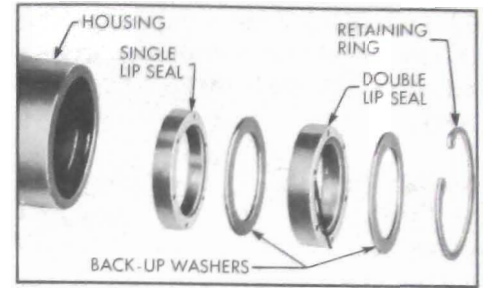
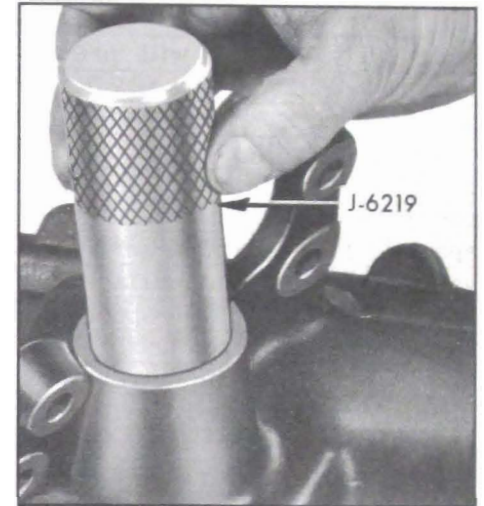

Figure 8-59—Pitman Shaft Seals
Figure 8-60—Installing Pitman Shaft Seals
2. Lubricate new pitman shaft seals in automatic transmission oil. Install the inner, single lip seal in bore first, then a back-up washer. See Figure 8-59. Using Tool J-6219, drive the seal and washer in far enough to provide clearance for the outer seal, back-up washer and retaining ring. See Figure 8-60. The inner seal must not bottom on the counter bore. Install the outer double lip seal and the second back-up washer in bore only far enough to provide clearance for the retaining ring with Tool J-6219. Install retaining ring with No. 3 Truarc Pliers Tool J-4245, making certain that ring is seated properly.